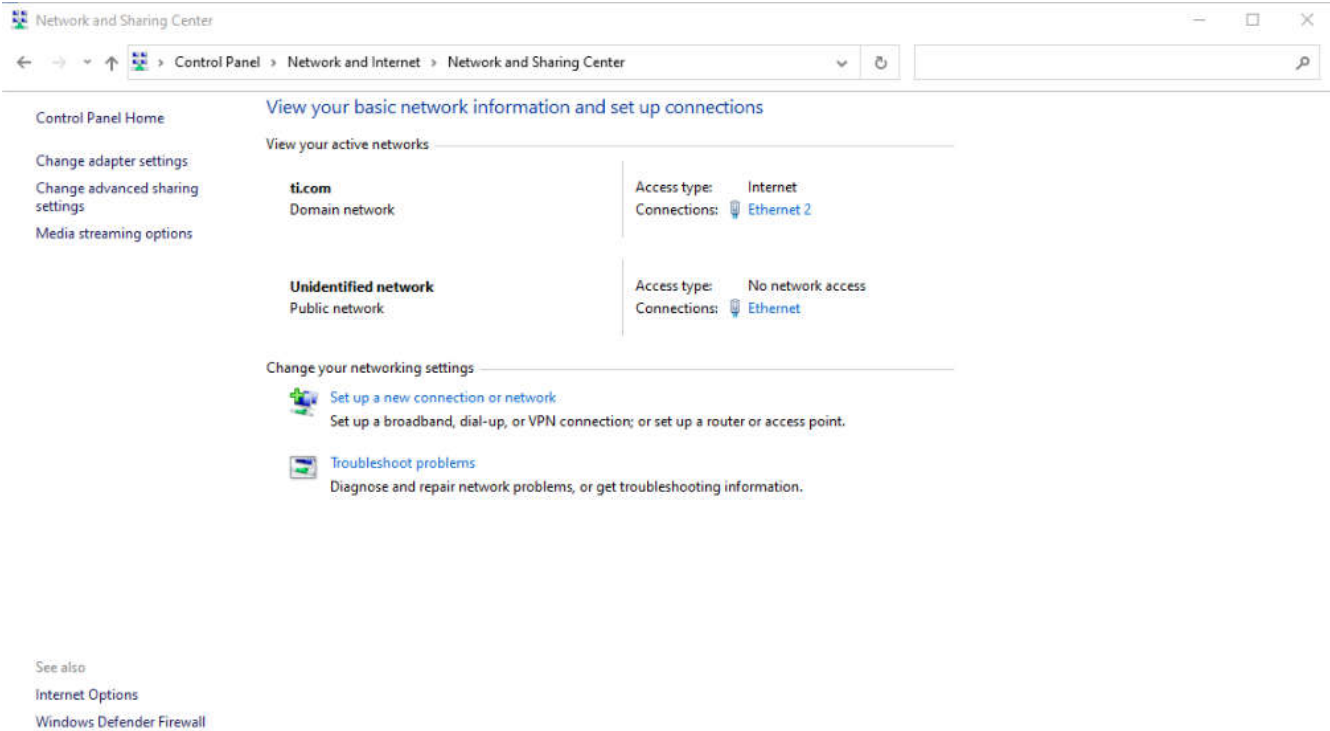

Figure A-3. Opening the Network in Control Panel
- After that, open the Control Panel and navigate to “Control Panel\Network and Internet\Network and Sharing Center”. Then, click on the connection for the Agilex eSOM7 as shown in Figure A-3.